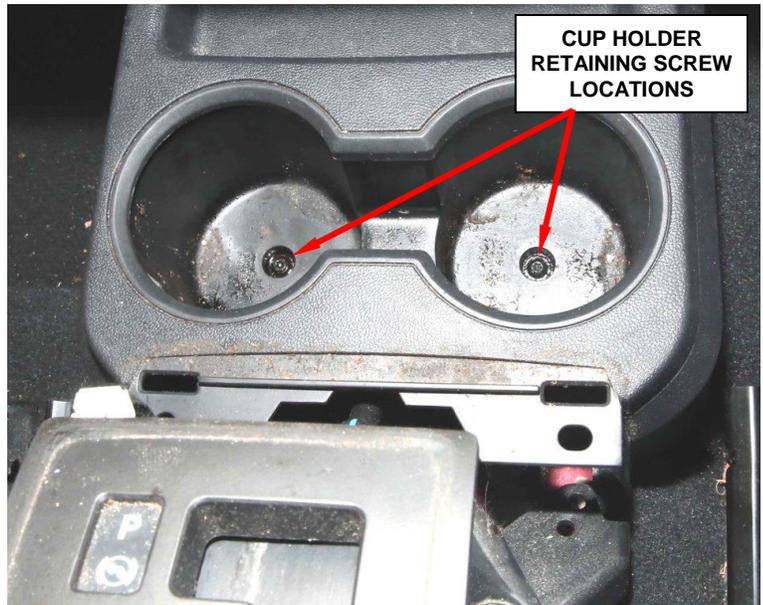

Figure 6 – Center Console Cup Holder Retaining Screw Location
- b. Remove and save the two retaining screws located on the bottom of the cup holder pockets (Figure 6).